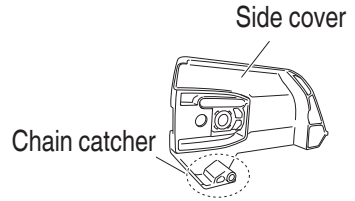

Fig. 47
6. **Inspecting the chain catcher (Fig. 47)**